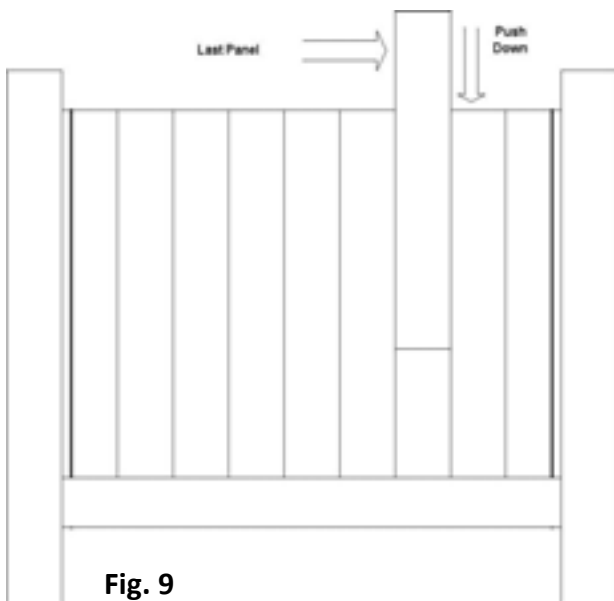

Fig. 9
Step 3. Starting on the end, insert the first picket into the bottom rail and the U-channel (if you have cut the first picket, the cut end should go into the U-channel). Proceeding down the panel, insert pickets into the bottom rail, interlocking the tongues and grooves as you go. When you get toward the end of the panel, begin working from the opposite post back toward center (keep tongues and grooves oriented in the same direction), so that the last picket to be inserted is 3 to 4 pickets in from the posts. Slide the last picket in from the top (Fig. 9).